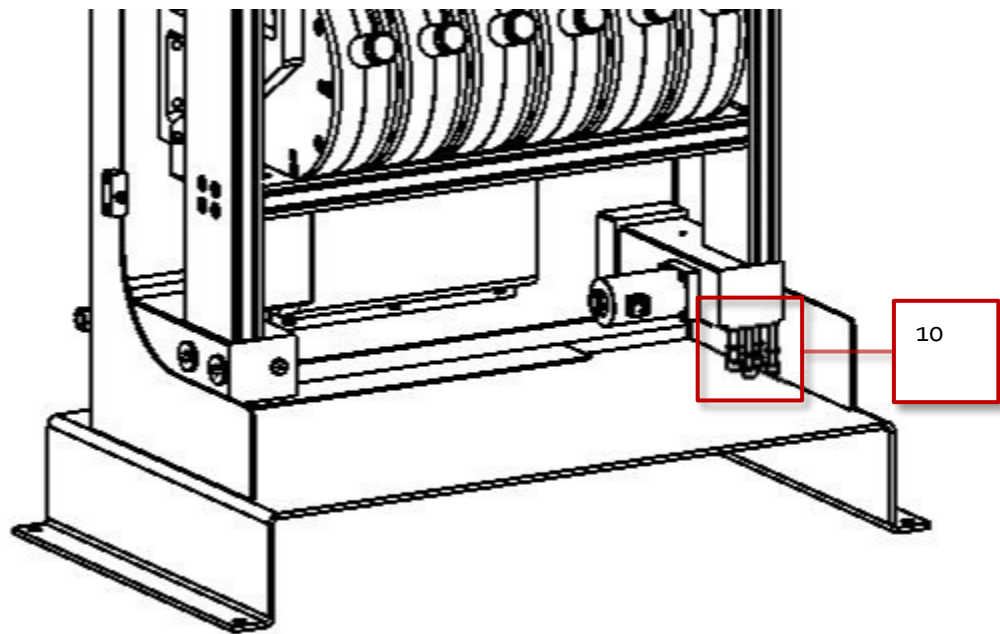

Figure 83 Remove screws to loosen the vertical connection bar
10. Remove the screws under the ozone out connection, see Figure 83.